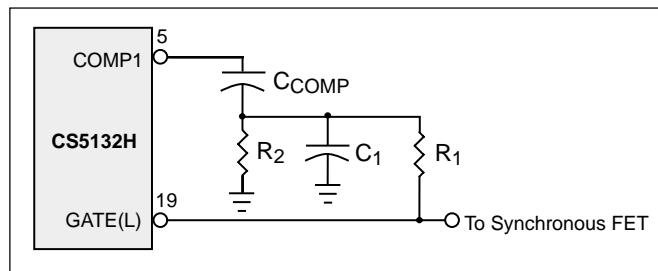

Figure 6: Small RC filter provides the proper voltage ramp at the beginning of each on-time cycle.
The circuit that implements this function for the synchronous regulator section (V_{CC(CORE)}) is shown in Figure 6.
The ramp waveform is generated through a small RC filter that provides the proper voltage ramp at the beginning of each on-time cycle. The resistors R₁ and R₂ in the circuit of Figure 6 form a voltage divider from the GATE(L) output, superimposing a small artificial ramp on the output of the error amplifier.